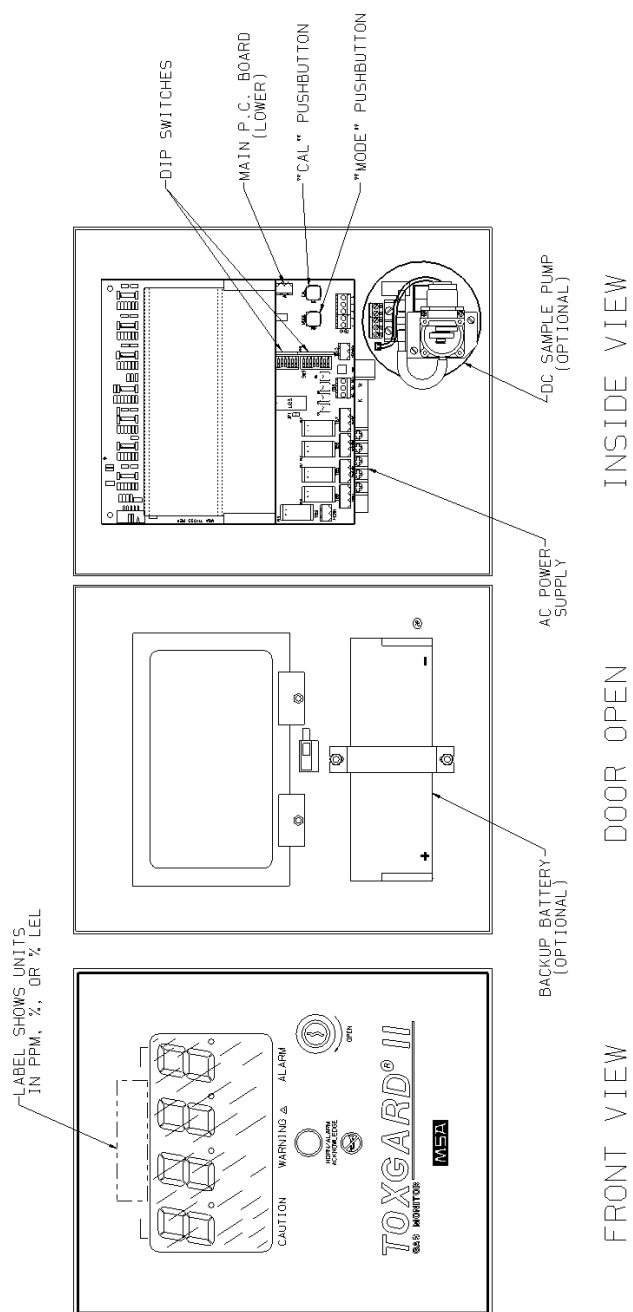
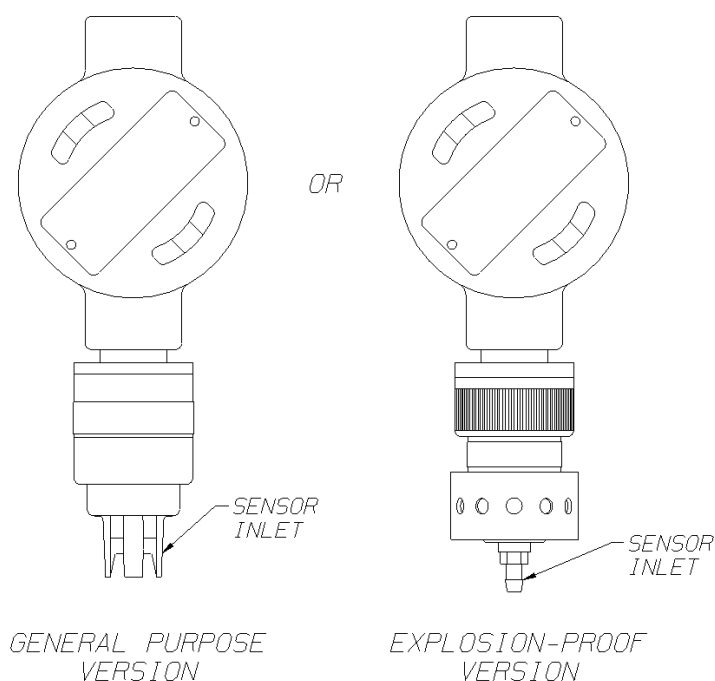

Fig. 1 Toxgard II Monitor
Fig. 2 Remote Sensor Model
- Toxgard II Monitor (Fig. 1 "Toxgard II Monitor")
- Toxgard II Remote Sensor Module, if ordered as a Remote Sensor model (Fig. 2 "Remote Sensor Model")
- (1) Remove the Toxgard II unit from its shipping container(s), taking care not to damage sensitive electrical components.
- (2) Search through the packing material and the containers to avoid discarding valuable parts.
All models are available as Remote Sensor models (Fig. 2 "Remote Sensor Model"). Combustible gas models require the remote explosion-proof sensor module.
To determine your model type and other installed options (Fig. 1 "Toxgard II Monitor" and Fig. 4 "Options and Accessories (Battery Back-up not shown)"), check the ID label on the shipping carton (Fig. 3 "Shipping Carton Label Identifying Sensor Type"). This label identifies:
Do not locate the Toxgard II Monitor in an area which may contain a flammable mixture of gas and air; otherwise, an explosion may occur. The general-purpose Toxgard II Monitor can be a source of ignition and must not be mounted in an area where a flammable mixture of combustible gas and air may be present; otherwise, an explosion may occur. Mount the Toxgard II Monitor or the Remote Sensing Module with its sensor inlet fitting (Fig. 1 "Toxgard II Monitor" or Fig. 2 "Remote Sensor Model") pointed downwards; otherwise, the inlet may become clogged with particulate matter or liquids. Do not paint the Toxgard II Monitor. If painting is done in an area where a sensor is located, exercise CAUTION to ensure paint is not deposited on the sensor inlet fitting. Such paint deposits would interfere with the diffusion process, whereby a sample of the monitored atmosphere diffuses into the sensor. Failure to follow the above can result in serious personal injury or death.
- has electronics physically located in the main monitor enclosure (Fig. 1 "Toxgard II Monitor").
The pump or aspirator draws a gas sample to the Toxgard II Gas Monitor sensor (Fig. 1 "Toxgard II Monitor"):